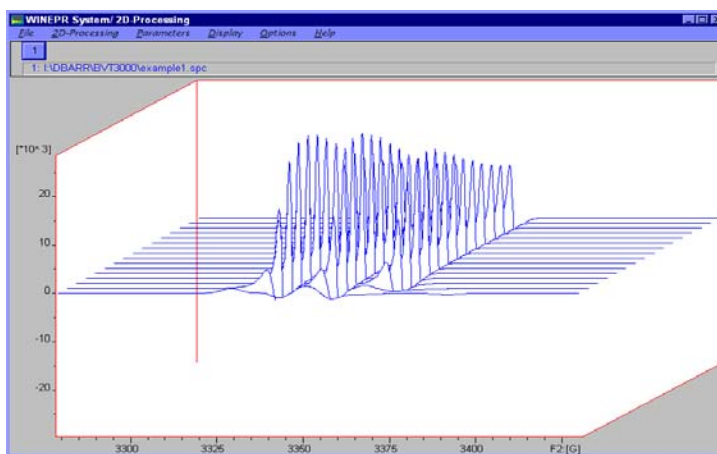

Figure 3-8 Using WIN-EPR to provide a three dimensional representation of the PDT temperature sweep experiment.
6. **Display your results in WIN-EPR.** To export your newly acquired 2D data set to WIN-EPR, click on the WIN-EPR button in the tool bar. The WIN-EPR program launches automatically with your data already loaded. To display the data as shown in Figure 3-8, select the stack plot option from the **Mode** selection in the **View** drop-down menu..